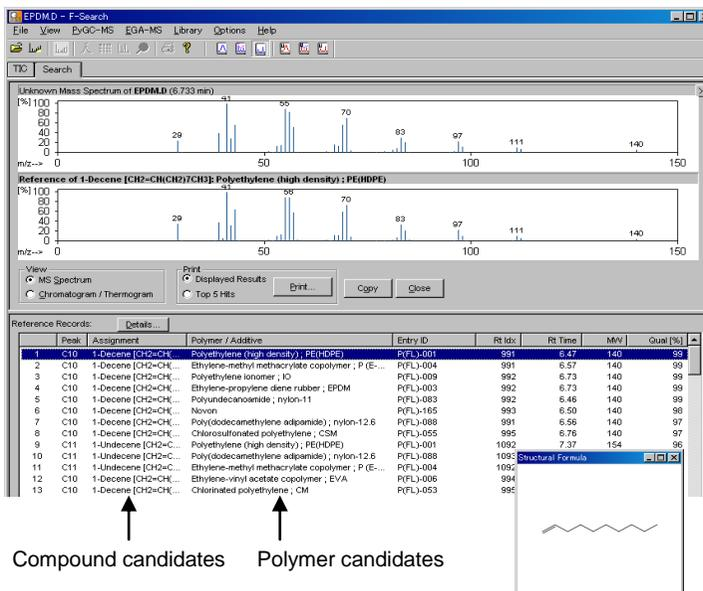

Fig. 5-27 Results of additive search against Py-GC/MS data
- (1) Load a mass spectral data file to be searched.
- (2) Select a library file for search, normally "Pyrolyzate-MS13B.fl" is selected.
- (3) With the cursor at top of a peak, double-click the right mouse button (section 5.1.3), or drag the right mouse button across a peak over a time interval (5.1.4). The mass spectrum of the peak or the average mass spectrum is displayed at the bottom of the window.
- (4) Double-clicking the right mouse button in the window where the mass spectrum is displayed initiates a library search. A typical search result is shown in Fig. 5-27. The Pyrolyzate-MS library, also displays the structure formula of selected candidates.